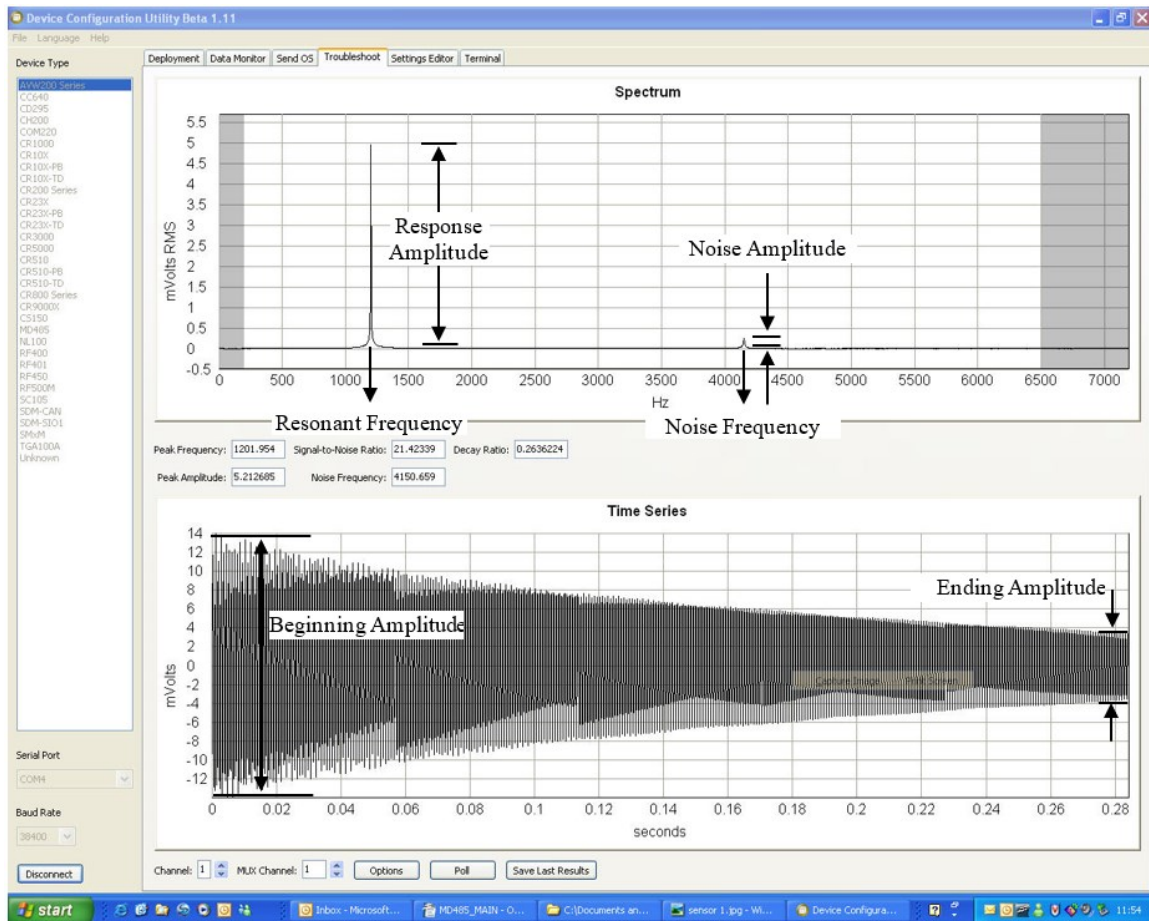

Figure 8-9. Graphs for evaluating spectral analysis of a sensor
5. Once the appropriate settings have been specified in the **Options** window, click **OK**, then click the **Poll** tab on the lower-left portion of the **Troubleshoot** window. The results of the poll will be displayed on a Spectrum graph and a Time Series graph (see Figure 8-9 [p. 42]).
In Figure 8-9 (p. 42), the lower graph shows the raw time-series data recorded from a vibrating-wire sensor after the sensor has been excited with the swept-frequency voltage signal. The upper graph shows the spectrum after the AVW200 has applied the FFT. In addition to the wire resonant frequency, the spectrum shows the response amplitude, noise amplitude, and noise frequency. The AVW200 computes the signal-to-noise ratio diagnostic by dividing the response amplitude by the noise amplitude. The AVW200 computes the decay ratio diagnostic from the time series end amplitude divided by the begin amplitude. (See Time series and Spectrum graph information (p. 92) for more information.)